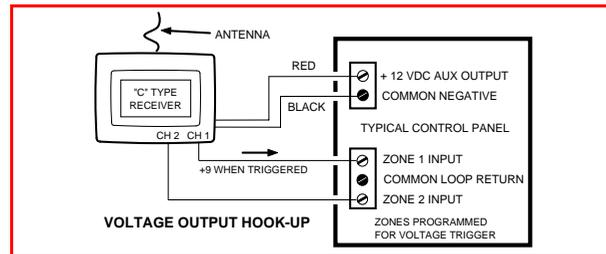

Figure 1. Typical "C" Type Wiring
The output wires on the "C" type voltage output receivers supply a positive trigger voltage to the connected device when the receiver detects a properly coded digital RF signal from a Linear transmitter. Each output channel wire will switch from an open state to +9 volts DC when activated. The voltage outputs are current limited to 10 mA maximum at 9 VDC, 40 mA maximum into a short. See Figure 1 for a hook-up example.
*** NOTE: On all "C" and "D" type receivers, the common (-) of the receiver must be connected to the common (-) of the control panel or communicator (see Figures 1 & 2).**
STEP 3 Connect the outputs to the zone input terminals on the control panel (see Figures 1, 2, and 3).